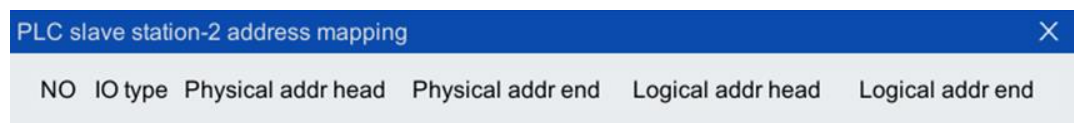

Fig. 2-18 View IO address mapping
Step 4. Click "IO Address Mapping" to view the set IO type, physical address head, physical address end, logical address head and logical address end, as shown in Fig. 2-18.